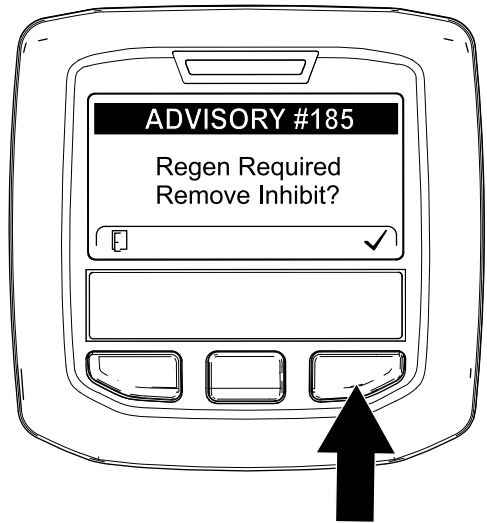

Figure 46
**Note:** If INHIBIT REGEN is set to ON, the InfoCenter displays ADVISORY #185 (Figure 46). Press button 3 to set inhibit regeneration setting to OFF and continue with the reset regeneration.